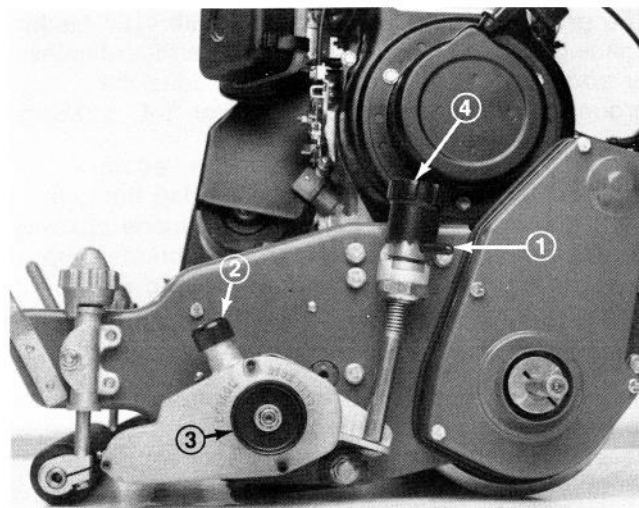

Figure 14
21. Reinstall drive belt cover to sideplate with (4) capscrews previously removed.
22. Check the assembly. Rotate both quick up levers to raise the grooming reel into the transport position (Fig. 14). Hold the clutch snubber down and rotate the clutch knob clockwise to disengage the clutch (Fig. 14). Correct any problems and recheck assembly.
23. Using a hand pump grease gun, lubricate the (2) grooming reel shaft bearings (one on each end). Pump only 2-3 pumps maximum to avoid permanently damaging the grease seals.